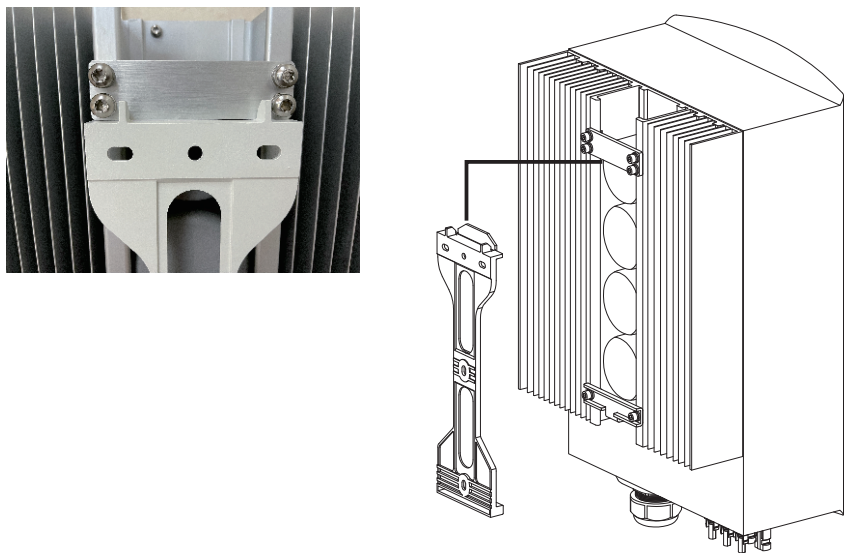

Figure 4.6 Wall Mount Bracket
- 3.Lift up the inverter (be careful to avoid body strain), and align the back bracket on the inverter with the convex section of the mounting bracket. Hang the inverter on the mounting bracket and ensure the inverter is secure (see Figure 4.6)